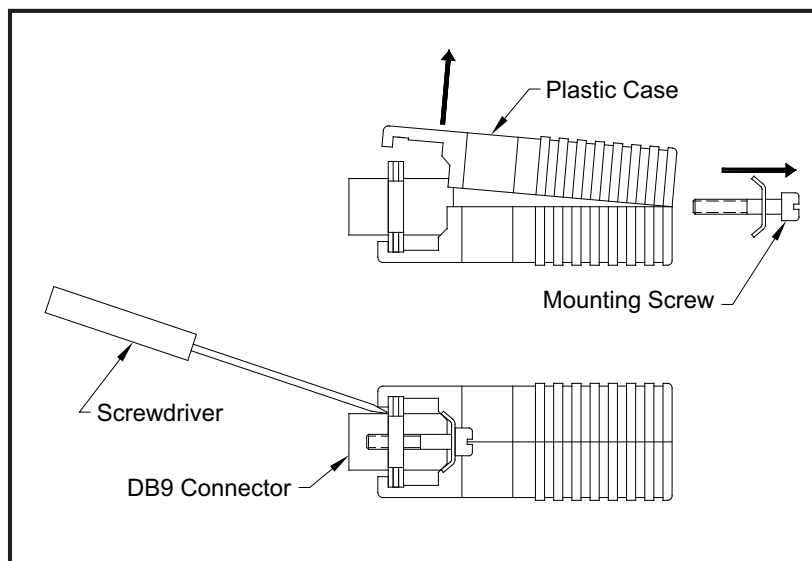

Figure 10: Opening the Converter Case
5. Use a small screwdriver to pry open the *plastic case* of the serial interface converter, as shown in Figure 10.